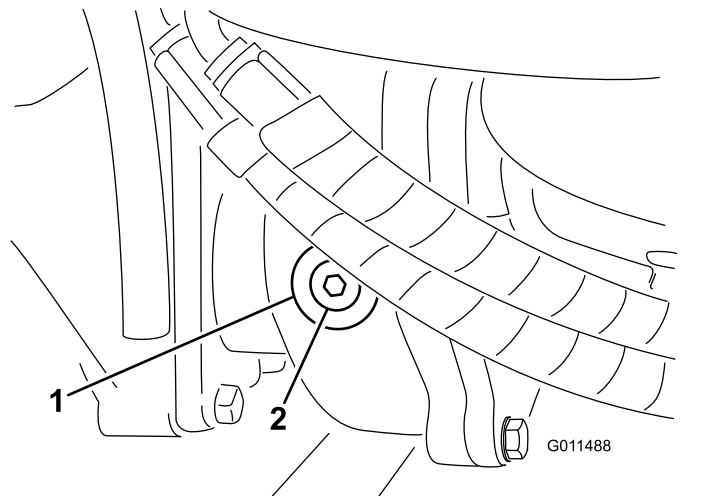

Figure 107
2. Remove the check/fill plug from the left side of the gearbox and ensure that lubricant is up to the bottom of the hole (Figure 107).